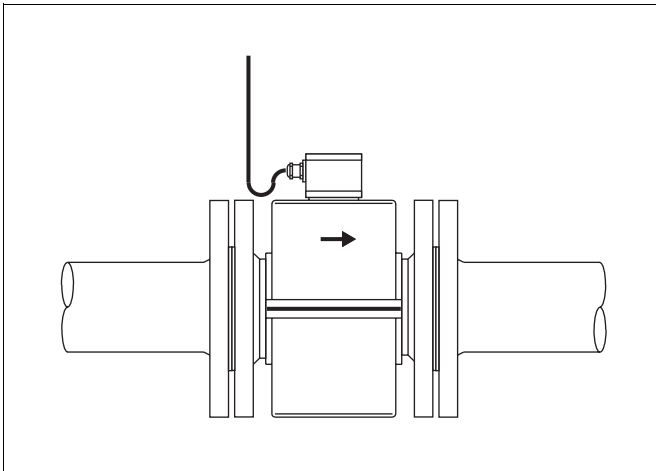

Fig. 36 Cable Installation
- When installing the signal/excitation cable to the flowmeter primary a water trap should be provided, (Fig. 36).